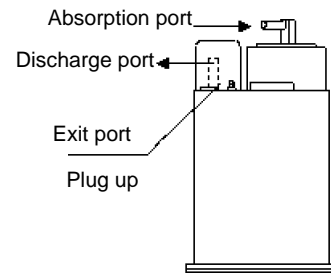

Figure 3-15
(3) Clean the canister: Block the desorption port, blow air (4.71KPa, 48kgf/cm²) into the absorption port, and the air should flow from the discharge port (see Figure 3-15).